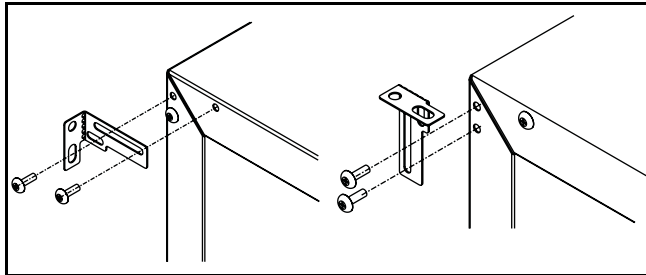

Figure 30
1. Remove the two screws from the opposite side of the hinge assembly using a Phillips screwdriver (**Figure 30**).